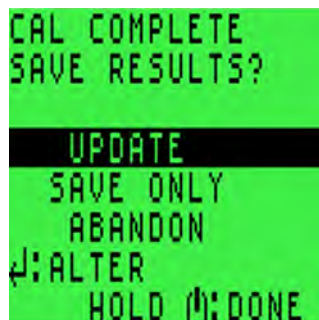

Figure 9-6: CAL COMPLETE/SAVE RESULTS Screen
7. Once calibration is successfully completed, the user has the option of saving the results (refer to Figure 9-6: CAL COMPLETE/SAVE RESULTS Screen).